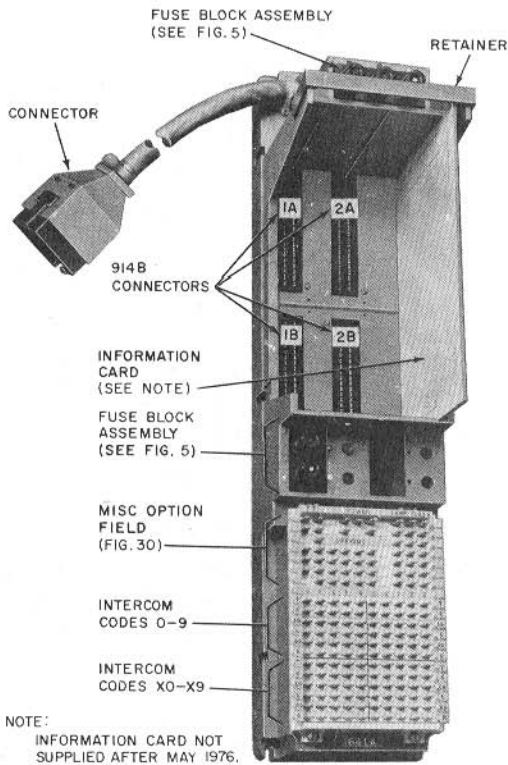

Fig. 3—641A Modular Panel
**D. 641A Modular Panel (Fig. 3)**
- Terminal field (YELLOW) utilized by all connectors for a common dial intercom service [**NOT** related to individual connectors by quadrants as on the 620A (MD), 620A2, and 642A panels]